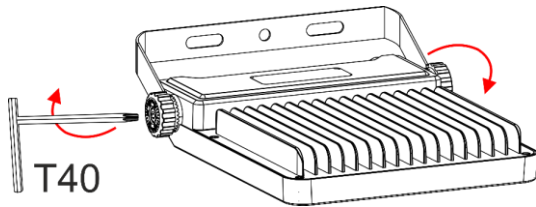
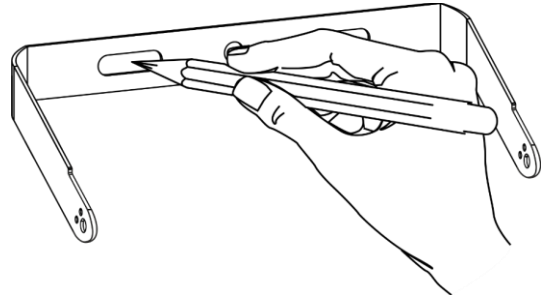

Fig. 07
Fig. 08
- 01) Turn the torx T40 counterclockwise to loosen the 2 hex screws inside the 2 **adjustment screws (06)** . (Fig. 07).
- 02) Remove the 2 **adjustment screws (06)**. The device and the **mounting bracket (03)** will disconnect.
- 03) Hold the **mounting bracket (03)** against the wall and mark the mounting locations (Fig. 08).